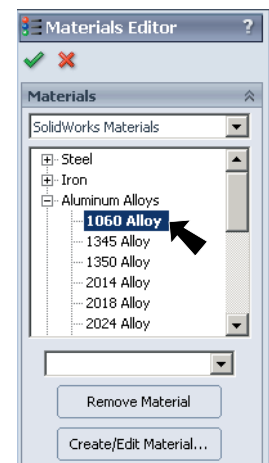

Fig. 9
Step 2. Expand **Aluminum Alloys**, select **1060 Alloy** and click OK , **Fig 9**.